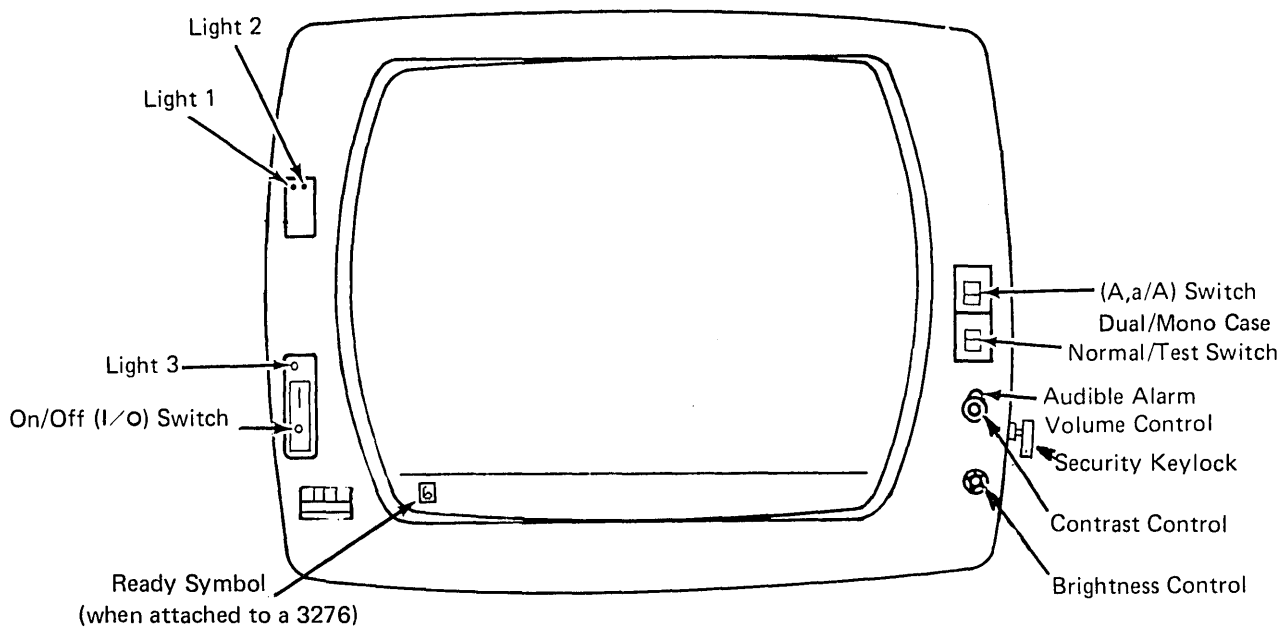

Figure 5-2. 3278 Operator Controls and Lights
The 3278 On/Off (I / O) switch is separated from the brightness and contrast controls (see Figure 5-2). This reduces the possibility of accidentally turning the display station off. To turn the 3278 on, press the top portion  of the switch. Light 3 and Light 1 should turn on when you press the On/Off switch. After a delay of a few seconds, (1) Light 2 turns on, (2) the cursor appears in the first position of line 1, (3) a horizontal line appears across the lower portion of the screen, and (4) a Ready symbol (see Chapter 2) appears in the lower-left portion of the screen in an area called the Operator Information Area.
The brightness control knob (see Figure 5-2) serves the same function and operates in the same manner as the 3275/3277 brightness control. This control also has a test position. When the control knob is turned fully clockwise beyond the first stop and held, the screen becomes very bright.
The contrast control knob (see Figure 5-2) serves the same function and operates in the same manner as the 3275/3277 contrast control.
If your display station has the Audible Alarm feature installed, the volume control  for the audible alarm is located at the outside of and behind the screen contrast control (see Figure 5-2) instead of under the machine covers. Turning this control clockwise increases the sound level; turning the control counterclockwise decreases the sound level.
When you are operating the display station, this switch is in the Normal position (see Figure 5-2).
The 3278 Display Stations can display both uppercase and lowercase alphabetic characters. You can use the A, a/A switch (see Figure 5-2) to display (1) only uppercase alphabetic characters or (2) both uppercase and lowercase characters. To select only uppercase characters, set the switch to A; to select uppercase and lowercase characters, set the switch to A, a.